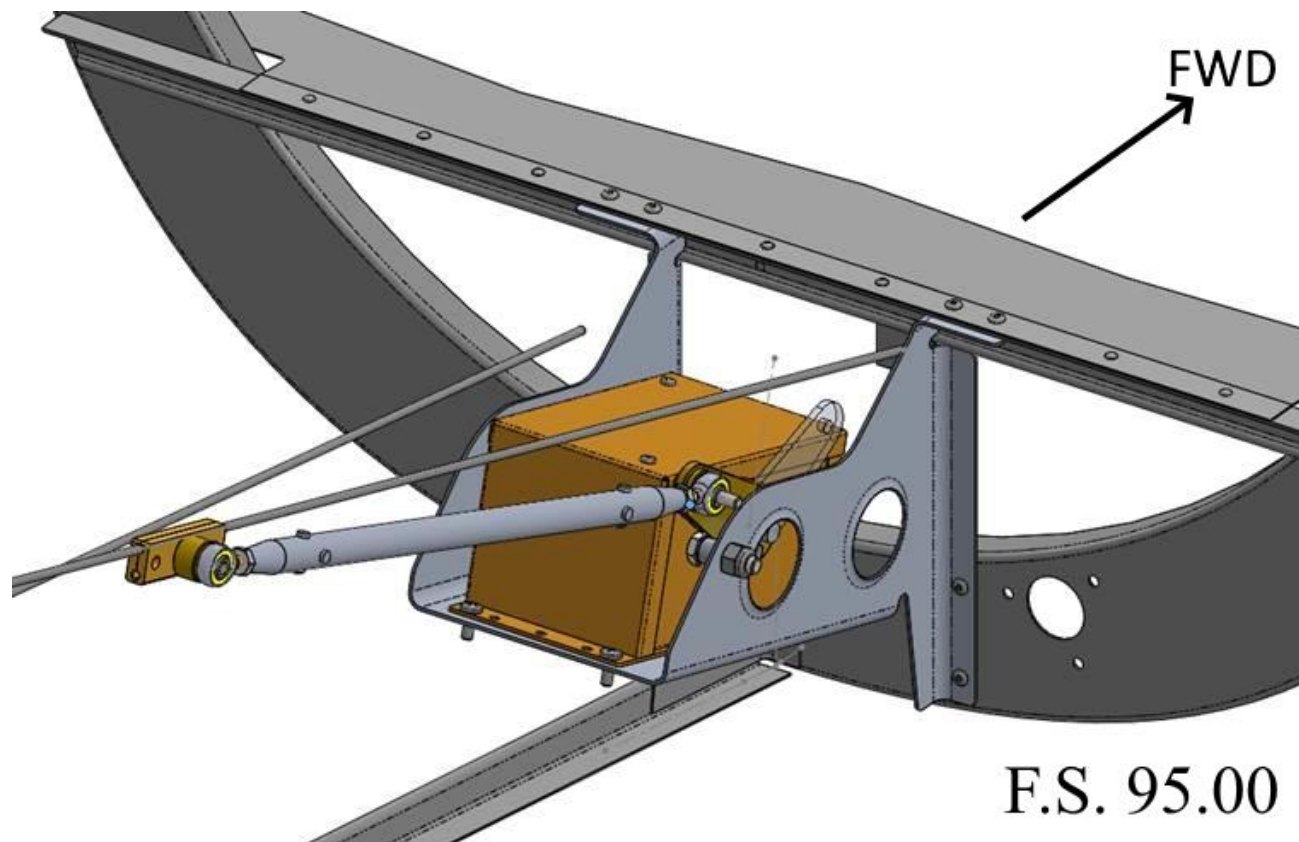

FIGURE 4-9 PITCH SERVO INSTALLATION
- 4.2.2 Install the assembled pitch servo onto the bracket with the servo arm facing up and towards the RH side of the aircraft. Refer to Figures 4-9 & Illustrated Parts Catalog Document # 1006907.
- 4.2.3 Clamp the 1006235 bracket to the aft baggage floor angle and the lower aft side of F.S. 95.00. Refer to Figure 4-9.
- 4.2.27 Install the MS24665-134 cotter pins on the castle nuts at each end of the push pull tube. Refer to Figure 4-9 and the Illustrated Parts Catalog Document #1006907.